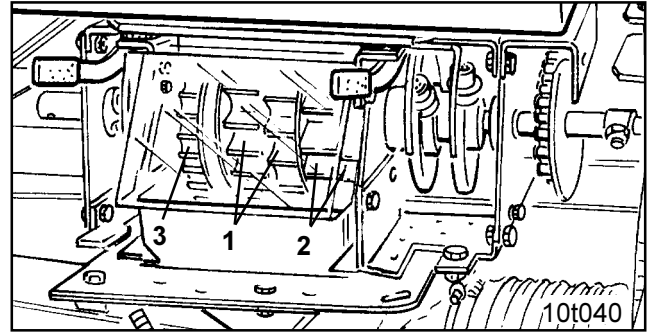

Fig. 11.1
- a white coloured main seed wheel (Fig. 11.1/1)
- an orange coloured main seed wheel (Fig. 11.1/2)
- a red/black coloured fine seed wheel (Fig. 11.1/3).